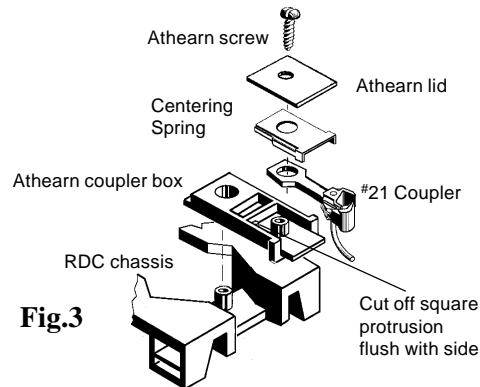

Fig.3
2. Trim square protrusion flush with side of box. Place #21 Coupler in box and Centering Spring on top of coupler. See Fig. 3.